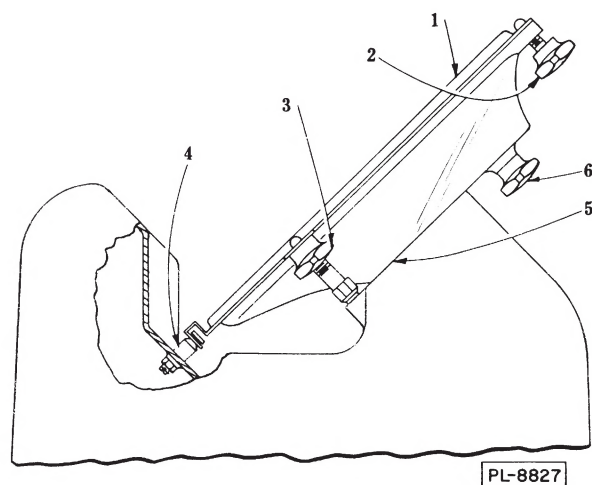

Fig. 4
6.2.5 Loosen the two retaining knobs (2 & 3, Fig. 4), rotate the front knife guard (1, Fig. 4) clockwise to clear slots at the screw heads and unhook from the stud (4, Fig. 4). Lift off guard.
6.2.6 After front guard is removed, the back guard (5, Fig. 4) can then be disassembled by unscrewing the knob (6, Fig. 4).
6.2.10 Reassemble the back knife guard, then the front knife guard. In replacing the front knife guard, first hook the bottom clip over the necked diameter of the stud (4, Fig. 4) then drop the guard over the two round-nosed securing screws. This guard has been so designed, that if this procedure is followed, the knife will not be damaged.